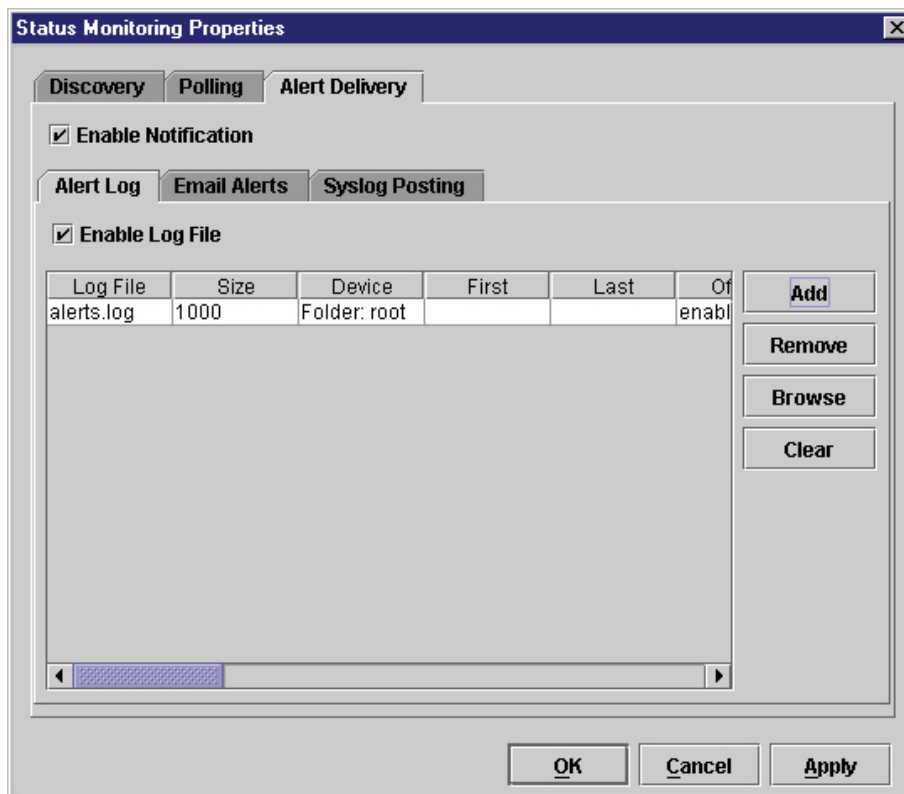

Figure 33 Status Monitoring Properties: Alert Delivery Tab – Alert Log Sub-Tab
1. **Alert Log:** Allows PNE to log alerts to a file located in the PNE installation directory. To log alerts, check the **Enable Log File** check box, then click **Add** (see Figure 33). A task item adds to the log list. In the task item, specify the following as applicable, then click **Apply** or **OK**.